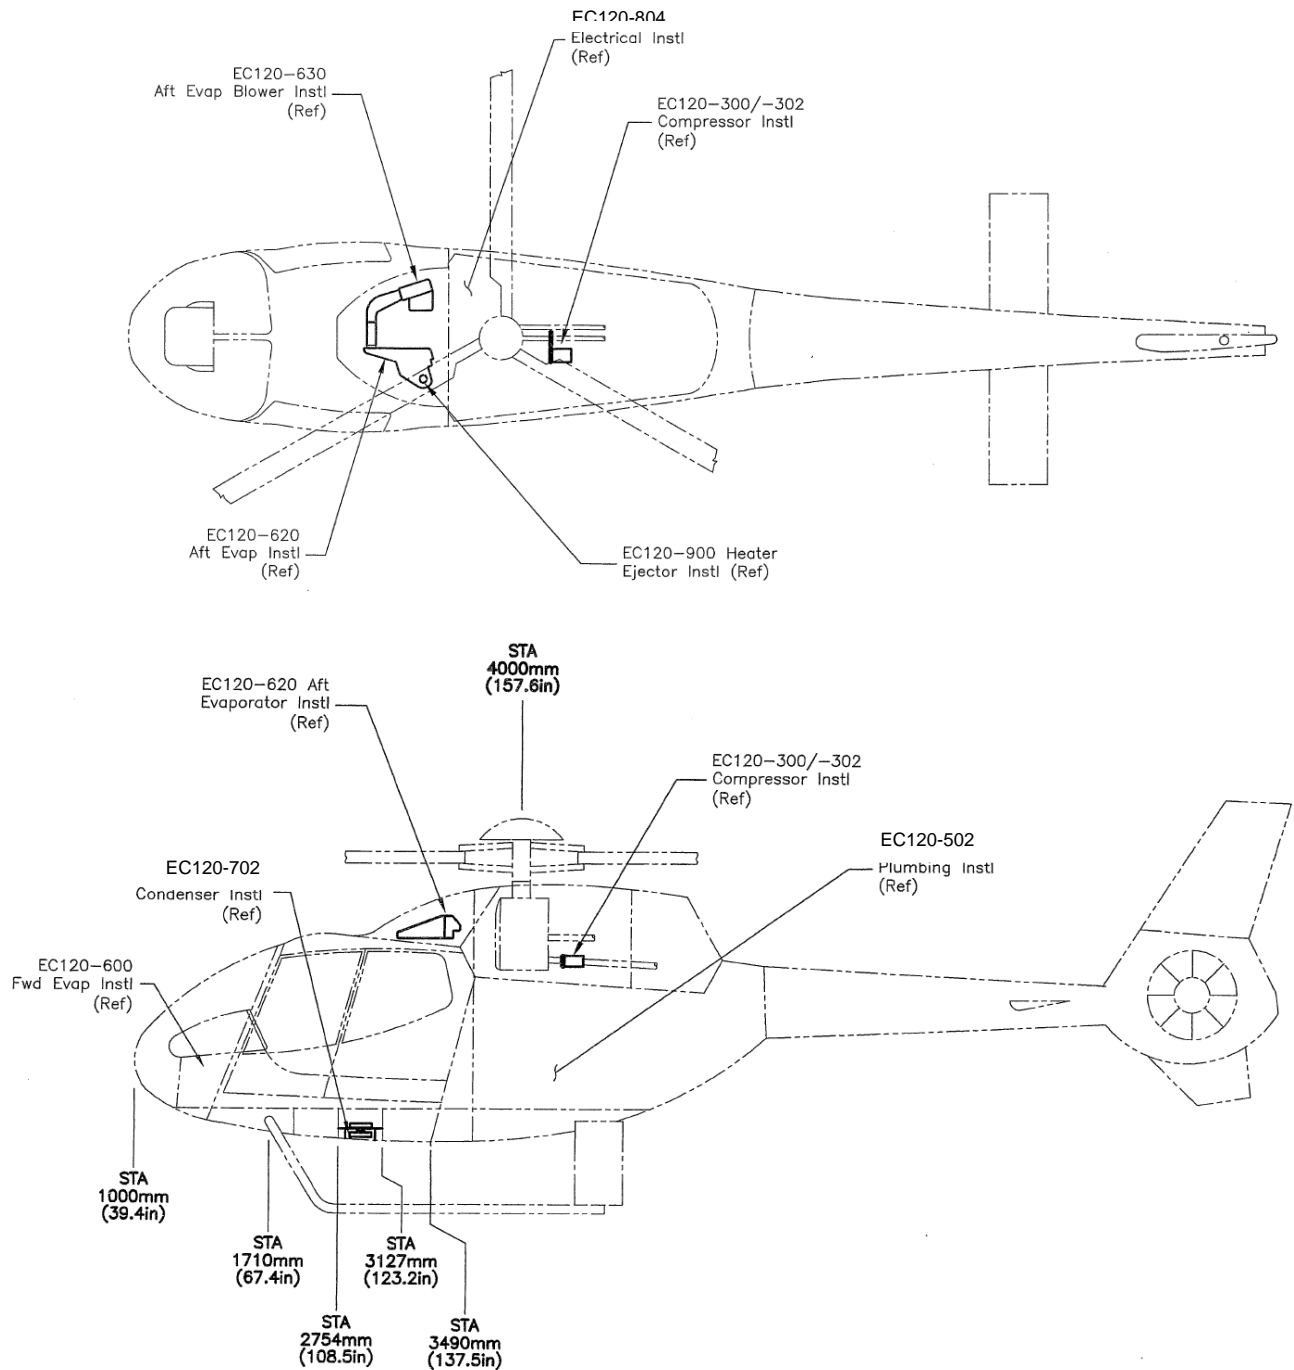

Figure 4-1 Layout of Air Conditioner Features
- 1) Locate the Molex electrical connectors that power the aft evaporator and condenser blowers. See figures 4-1,2 and 4-9 thru 13. The connectors are at the interface between the blower harness and the aircraft harness and identified by their white plastic housing. Note that the evaporator blowers have an additional connector to inspect located several inches away from the harness connector.